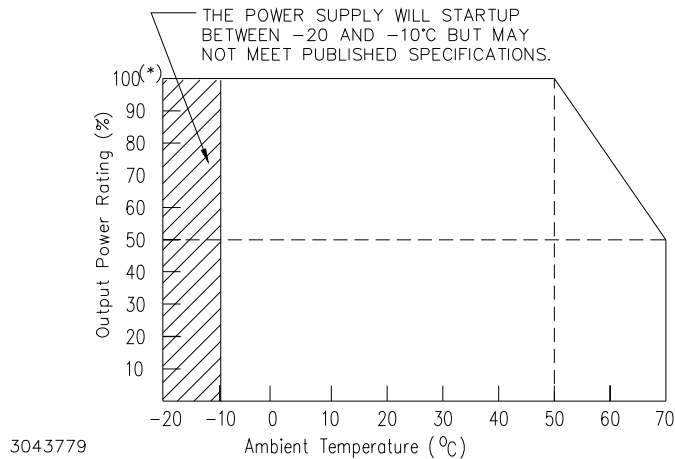

FIGURE 2. POWER RATING VS. TEMPERATURE
- (1) To adjust output voltage down to approximately 0V requires that DIP SW1, position 7 be set to ON. Refer to Table 5 for minimum conditions required to maintain proper operation of alarm relay, meter (AM Models only) and VDC ON/ALARM indicator.
- (2) Using trimpot to attain voltages outside the specified adjustment range may trigger overvoltage (PAR 3.6.1) faults. Recovery is by removing, and after approximately 40 seconds, reapplying AC input power or by reset (open and close) at ±RC terminals (no delay).
- (3) See Figure 2 for power derating.
- (4) CAUTION: The unit may be damaged if operated under overcurrent or shorted conditions for more than 30 seconds. If current exceeds limit (5% of nominal), output voltage starts to drop. If overload condition continues, current up to 130% of nominal may be experienced.
- (5) Constant current limit with automatic recovery, except 5V model: constant current limit with hiccup and automatic recovery (see PAR. 3.6.2).
- (6) When overvoltage is detected, output is shut OFF. Recovery is by removing, and after approximately 40 seconds, reapplying AC input power or by reset (open and close) at ±RC terminals (no delay).
- (7) Measure with JEITA RC-9131A probe, bandwidth of scope: 100MHz.